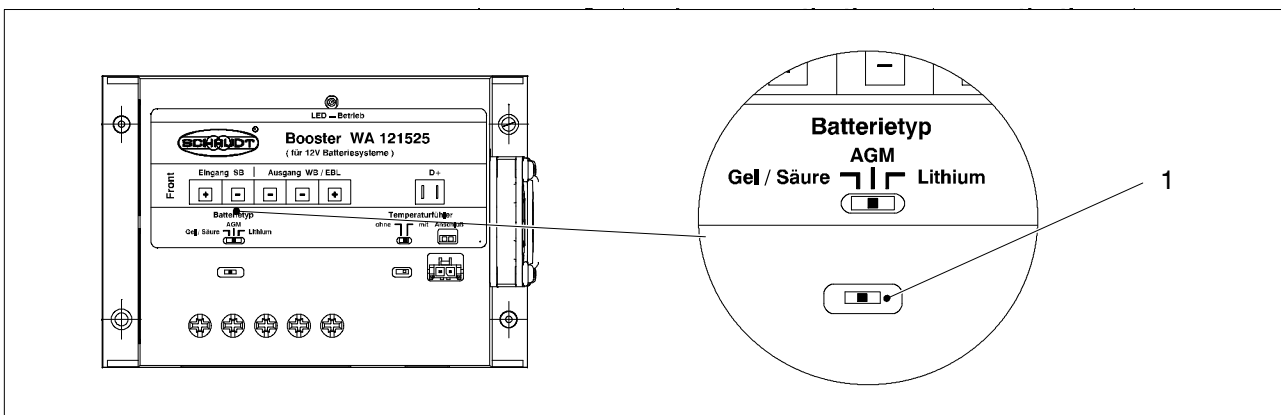

Fig. 6 Battery selector switch
- ▶ Move the battery selector switch (Fig. 6, Pos. 1) to the correct position: